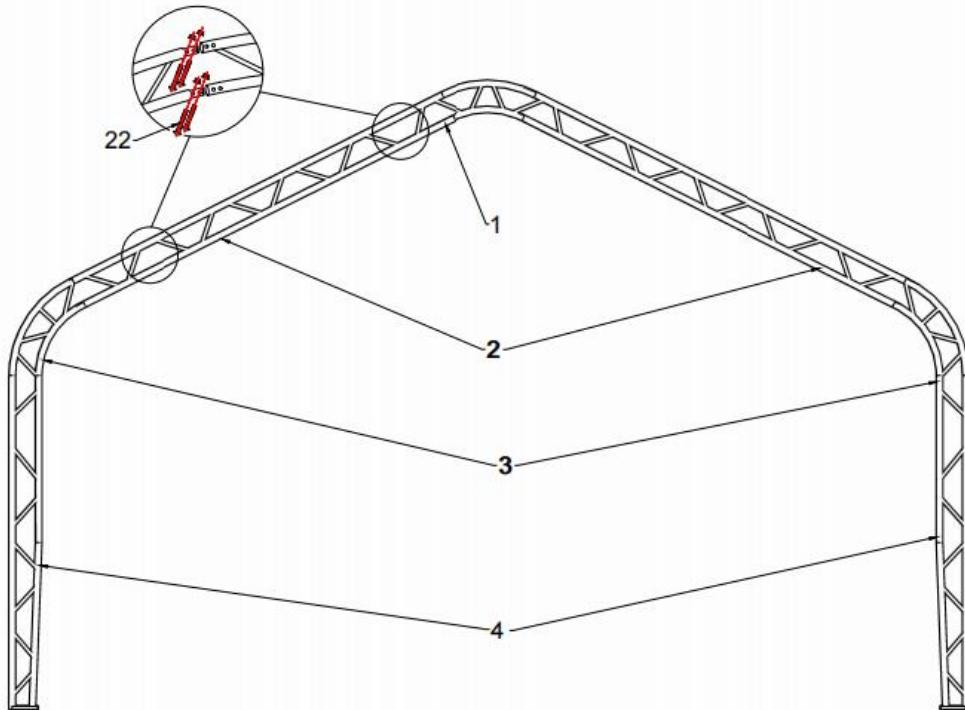
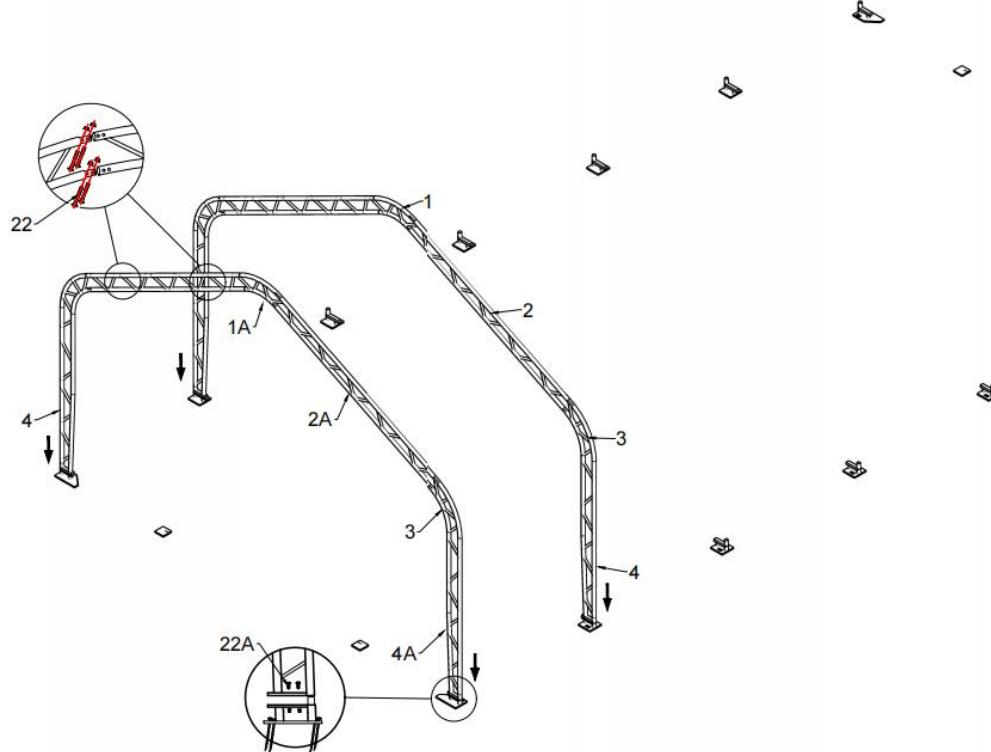

Figure 4
Figure 5
2. Figure 4 shows to connect the roof bent tube (No.1), sidewall bent tube (No.2), shoulder bent tube (No.3) and standing leg (No.4) with carriage bolt 8x80 (No.22), then put the arch into tube of the base flange by hoist, and assemble every group arch by turns (see Figure5)